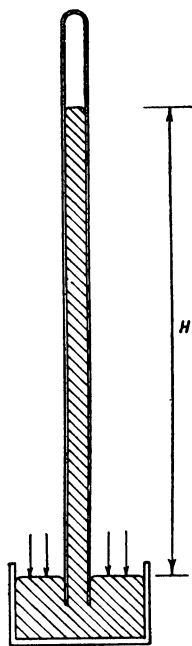

Fig. 6.7. Torricellian barometer.
33. Surface Tension. It will be noticed that the top surface of the mercury in the barometer is curved as is shown in Figure 6.7. The mercury surface is convex (curves up) but if the tube contains water the surface is concave (curves down). This curved top surface is called the *meniscus*. If the adhesion (attraction between unlike molecules) between the liquid and the tube is greater than the cohesion (attraction between like molecules) between the molecules of the liquid, the liquid wets the tube and the surface is concave. If the cohesion of the liquid is greater than the adhesion of the liquid for the tube the liquid does not wet the tube and the surface is convex. The curved surfaces of liquids in small tubes are due to surface tension.